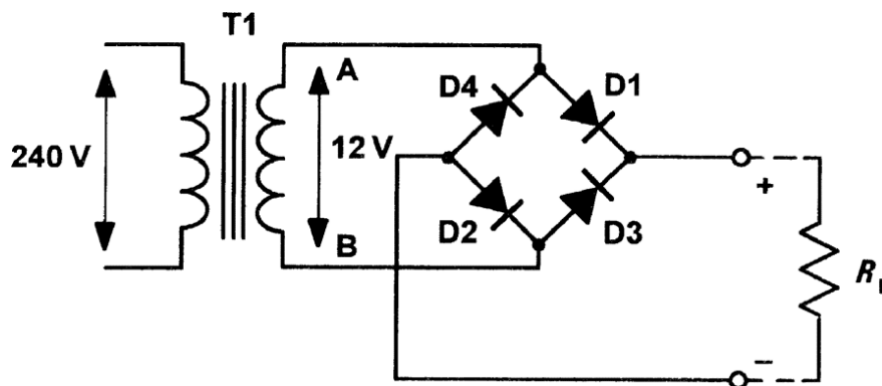

Figure 1.14 Full-wave bridge rectifier circuit
- A full-wave bridge rectifier arrangement is shown in Fig. 1.14.